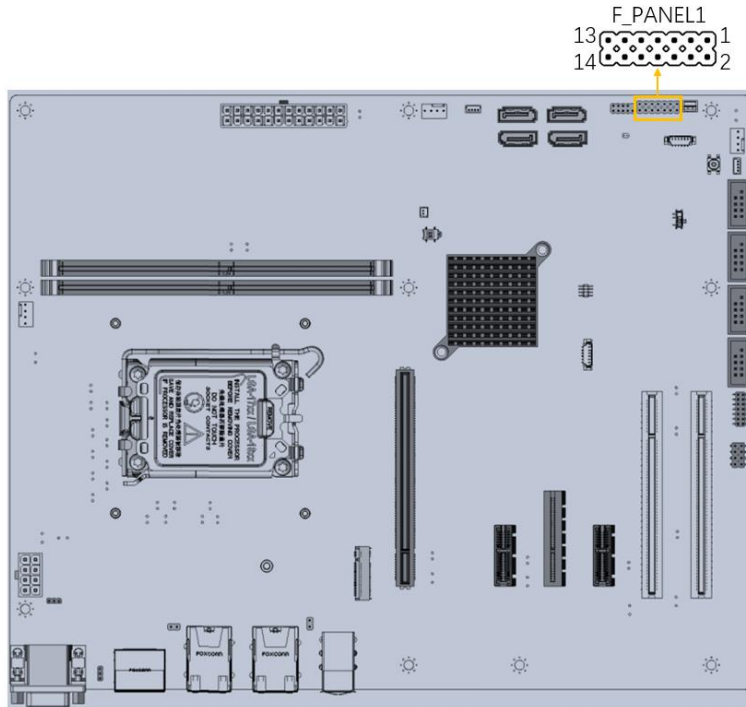

Figure 3-16: Front Panel Connector Location
- CN Location:** See Figure 3-16